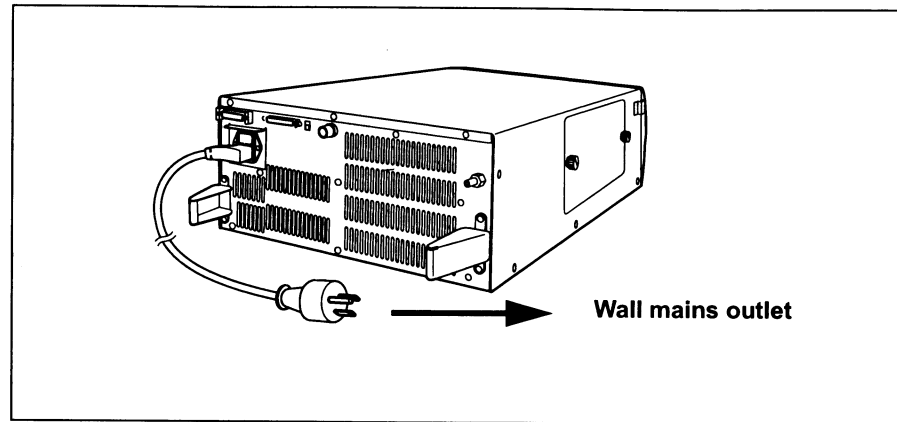

Figure 7.9
2. Connect the power cord to the AC power inlet of the light source and to the wall mains outlet (see Figure 7.9).